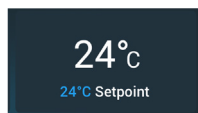

Figure 3–22: Temperature Box on Home Screen
1. Tap the **temperature box** on the “Home” screen, shown in Figure 3–22 below.
The “Setpoints: Standard” screen shown in Figure 3–13 or “Setpoints: Advanced” screen shown in Figure 3–14 appears.